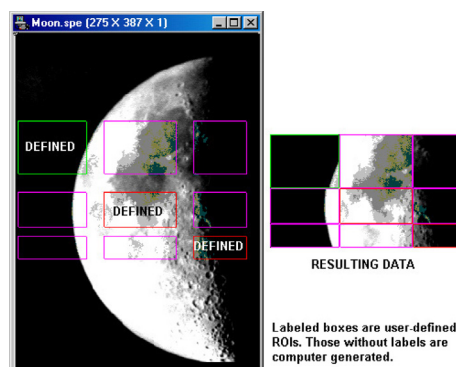

Figure 234. WinX/32 Side-Effect ROIs
**Note:** LightField version 3.0 SPE files are more complex than WinX/32 version 2.x SPE files. The LightField converter allows you to view the data in LightField. File information, however, will be limited and multiple ROIs will be displayed using the WinX/32 side-effect ROIs (see Figure 234.). Converted data can be exported but it cannot be used in post-processes.